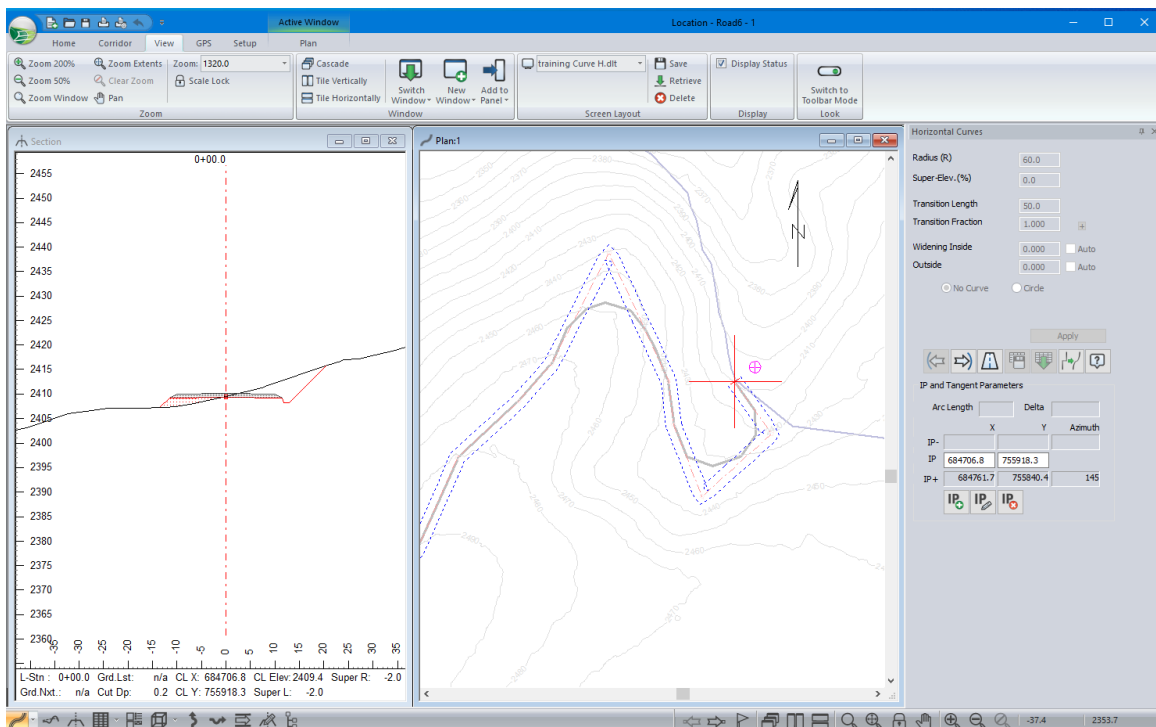

Figure 6-11 : Horizontal Alignment Without Curves
2. Use the *Screen Layout* toolbar drop-down to open <Defaults and Layouts>\training\training Curve H.dlt. The screen now should look similar to Figure 6-11 below.